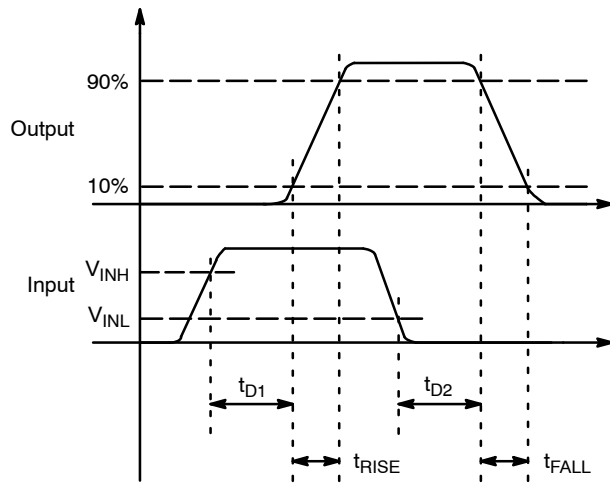
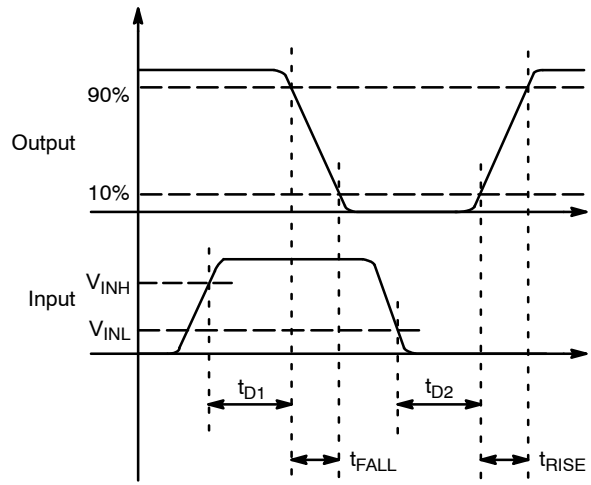

Figure 6. Non-Inverting
Figure 7. Inverting
9. See Timing Diagrams of Figure 6 and Figure 7.